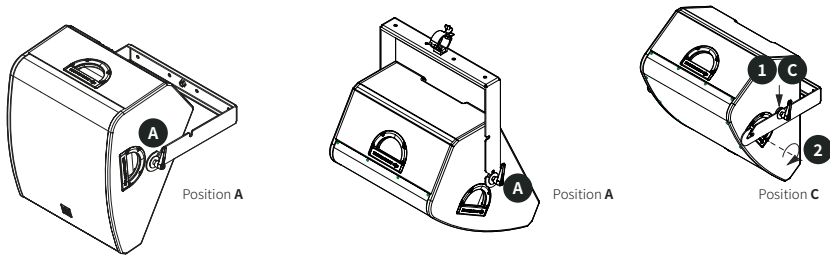

Figure 11. Different aiming angles for wall- and truss-mount installation.
11. If you want to be very close to the wall and have SMX 12A pointing downwards, you can use the notch position **C** on the U-bracket. See figure 11.